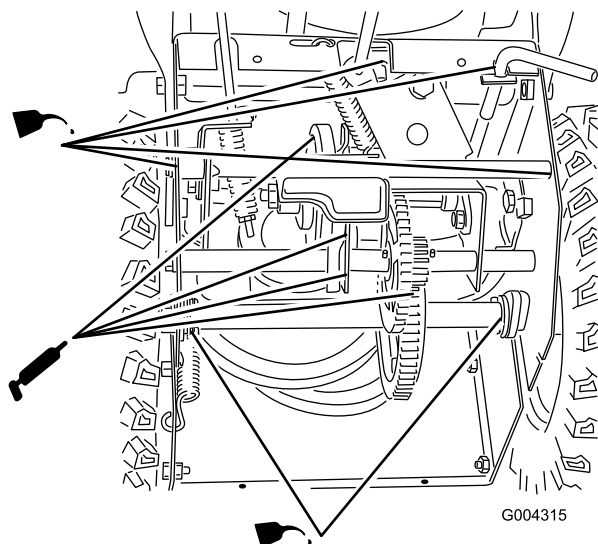

Figure 34
4. Lightly lubricate the snowthrower with light oil as shown in Figure 34.
6. Grease the snowthrower as shown in Figure 34.